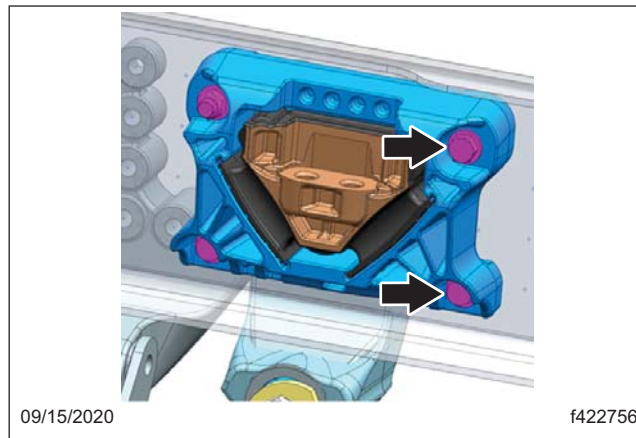

Fig. 18, Forward Fasteners
- 4.1 Remove the forward fasteners from the left-hand (LH) rear engine mount. See Fig. 18.